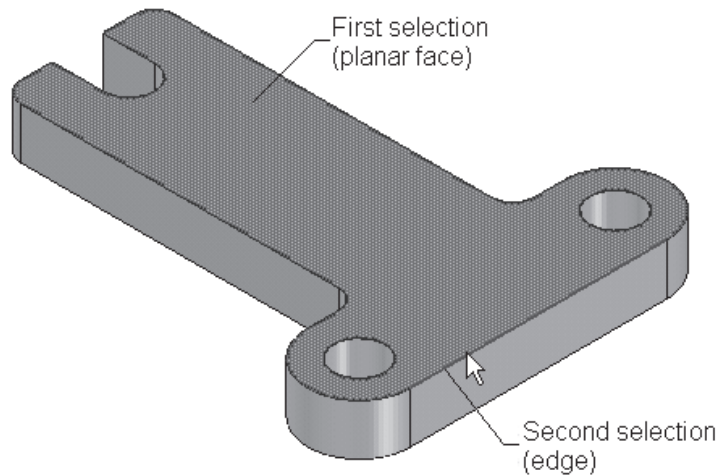

Figure 4-50 Making selections to create an angled plane
3. Select the top face of the base feature, as shown in Figure 4-50.
4. Select the edge through which the angled plane will pass, see Figure 4-50.